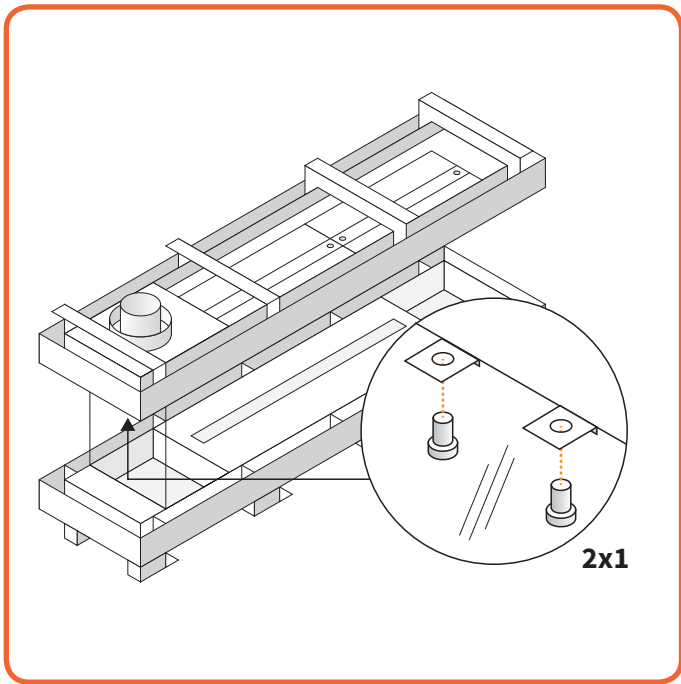
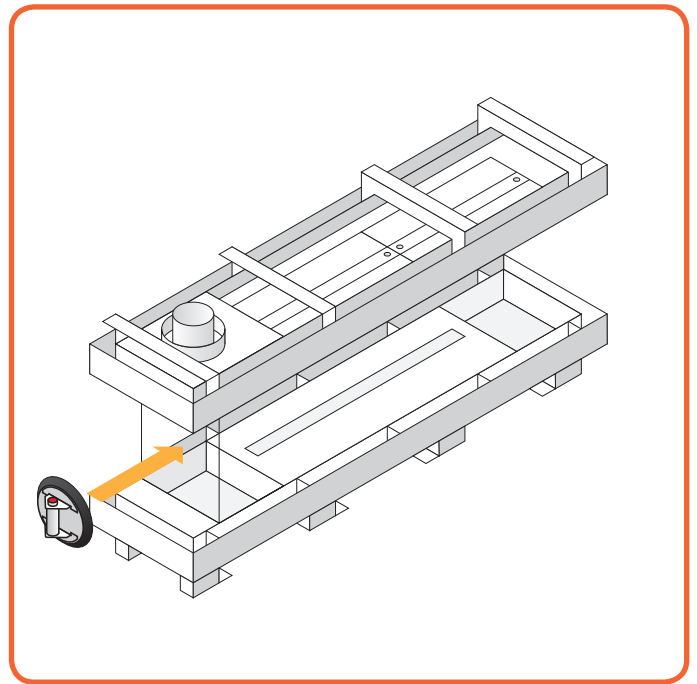

Figure 10.24 -
Figure 10.25 -
- For the partition it applies that it is attached to the top of the fireplace with a glass clamp (**Figure 10.24**). Unscrew it and remove the glass if necessary with the help of the suction cup (**figures 10.25 to 10.27**).